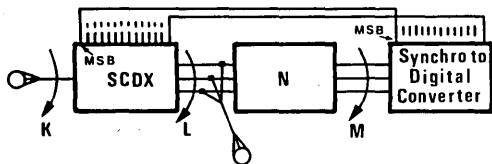

Figure 5. Reduction Gearing Using Step Up in the Feedback Path
If in Fig. 4 the staggering of the interconnections is reversed i.e. the M.S.B. on the synchro to digital converter is connected to the second M.S.B. on SCDX (1) reduction ratios can be obtained but there will be severe limitations on the total output excursion in angle due to the saw toothed behaviour of the input information to the SCDX's. This difficulty can be overcome by using the system of Fig. 4 in a feed-back loop. Showing the unit of Fig. 4 as a step up ratio box N in Fig. 5 an alternative method of speed reduction is obtained. With such a system however instability may occur unless the frequency response characteristic of the synchro to digital converter in Fig. 5 is shaped for the particular ratio.
In Fig. 5 K is the input angle L is the output angle, N is the step up ratio, and the following hold:-